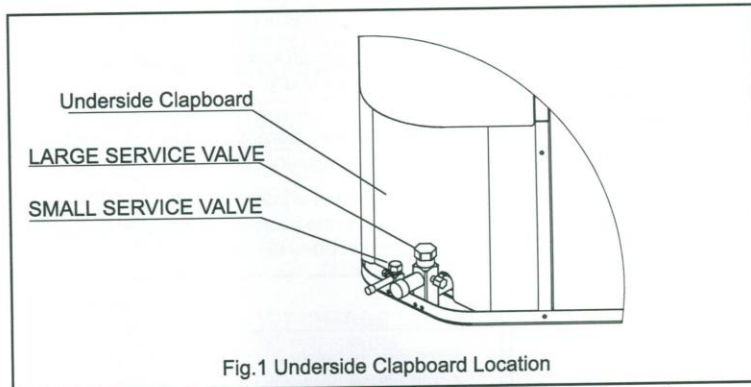

Fig.1 Underside Clapboard Location
- It will be more convenient to open the Service valve after removing the Underside Clapboard. see the Fig.1